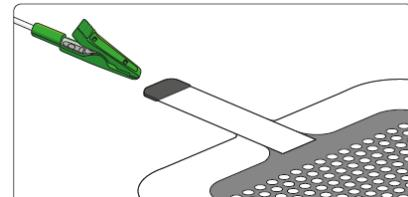

Figure 19. Connect the dressing cable to the dressing electrode
4. Connect the dressing cable to the dressing electrode using the clip, see Figure 19. The clip can be connected either direction.